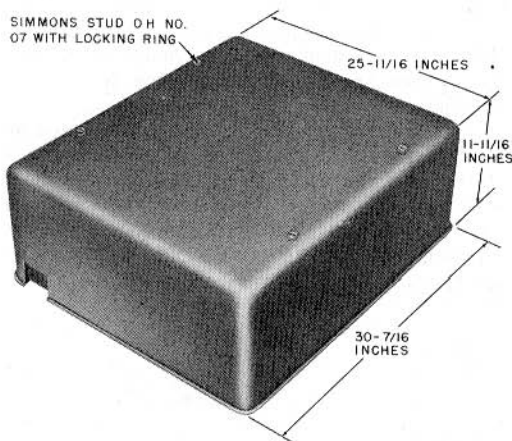

Fig. 38—Cover per ED-69368-50, Group 2
**8.05** The cover per ED-69368-50, Group 2 (Fig. 38) is designed to enclose one 26A apparatus mounting on an ED-69368-50, Group 1 or 3 backboard.